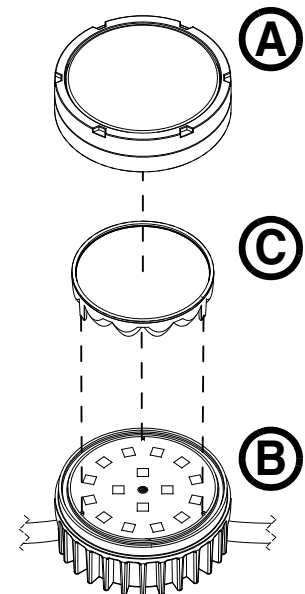

Figure 14: Installing a Lens Array Front
4. See Figure 14. Note the position of the three locating posts in the Lens Array **C** and the three corresponding locating lugs in the top of the dot **B**. This will ensure that each lens in the array sits directly over an LED in the dot. Place the Lens Array onto the dot with its flat side facing upwards and rotate it so that each locating post in the Lens Array fits around a lug in the top of the dot.